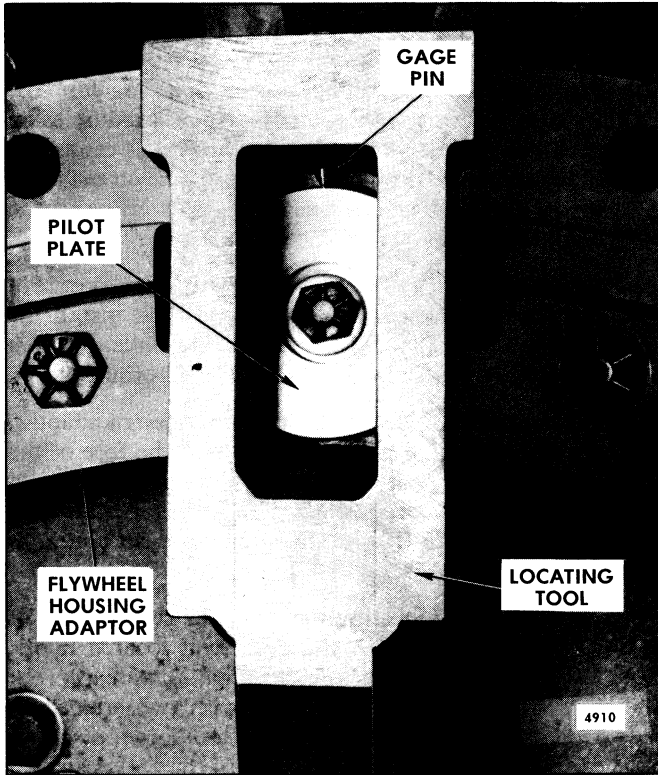

Fig. 3 - Pilot Plate in Position Against Gage Pin (Former Adaptor)
b. With the locating tool in position, slide the pilot plate up against the gage pin (Fig. 3). Tighten the pilot plate bolt to 30-35 lb-ft (41-47 N#m) torque.